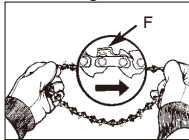

Fig. 3D
7. Spread the chain out with the cutting edges (F) of the chain pointing in the DIRECTION OF ROTATION (Fig.3D).